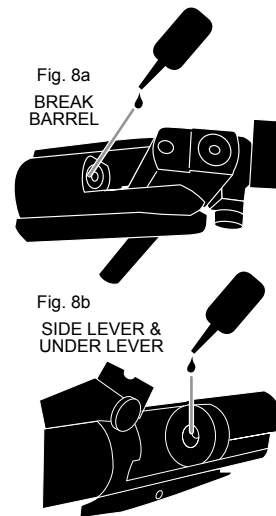
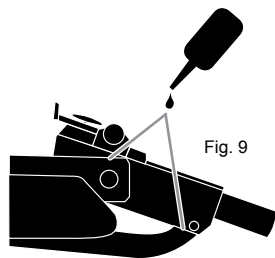

Fig. 8a
Fig. 9
WORKING PARTS: The working parts, like piston and mainspring require very little lubrication. Two (2) drops of RWS Chamber Lube every 1000 shots will suffice. It is easily applied through the compression chamber port with a 3 1/2" applicator needle (See Figures 8a & 8b). The wearing surfaces at the barrel hinge, the cocking arm and the trigger mechanism should be lubricated every 1000 shots with RWS Spring Cylinder Oil. (See Fig. 9)